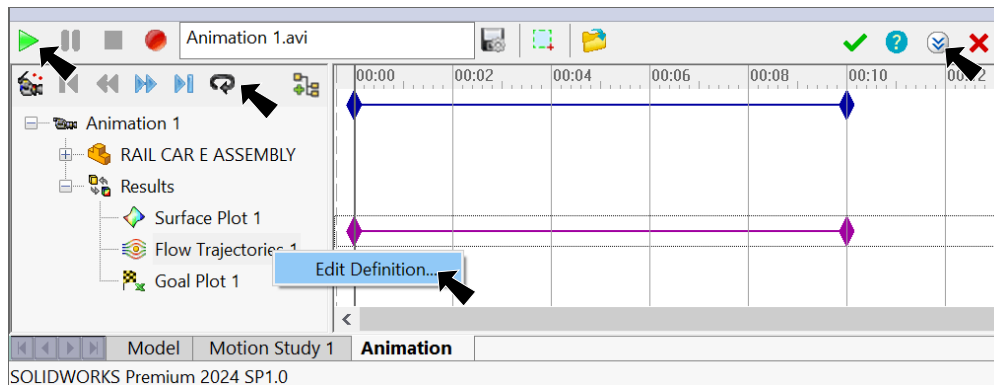

Fig. 29
- Step 3. If necessary, **Expand**  to expand the panel at the bottom right of the display in the animation control panel, Fig. 29.
- Step 4. Click **Play**  in animation control panel, Fig. 29.
- Step 5. **Right click** **Flow Trajectories 1** in the Animation tree and click **Edit Definition**, Fig. 29.
- Step 7. Click **Loop**  and **Play**  in animation control panel, Fig. 29.